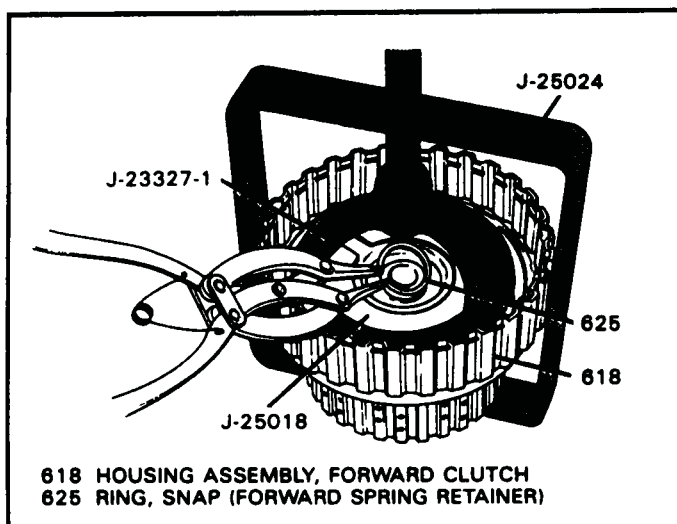

Figure 93
25. Install spring compressor shown in Figure 93, compress the return spring assembly, and then install the snap ring as shown in Figure 93.